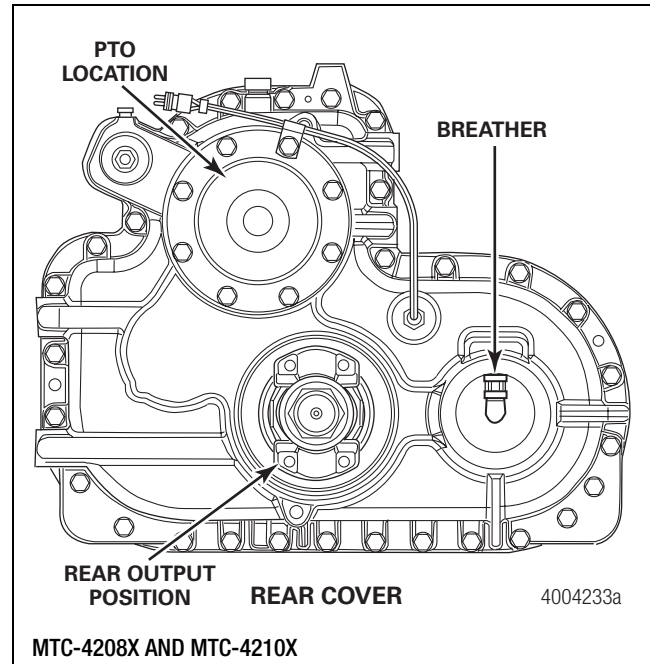

Figure 6.44
1. If necessary, install the breather into the rear cover. Figure 6.44.
3. Remove the breather assembly. Figure 6.44.